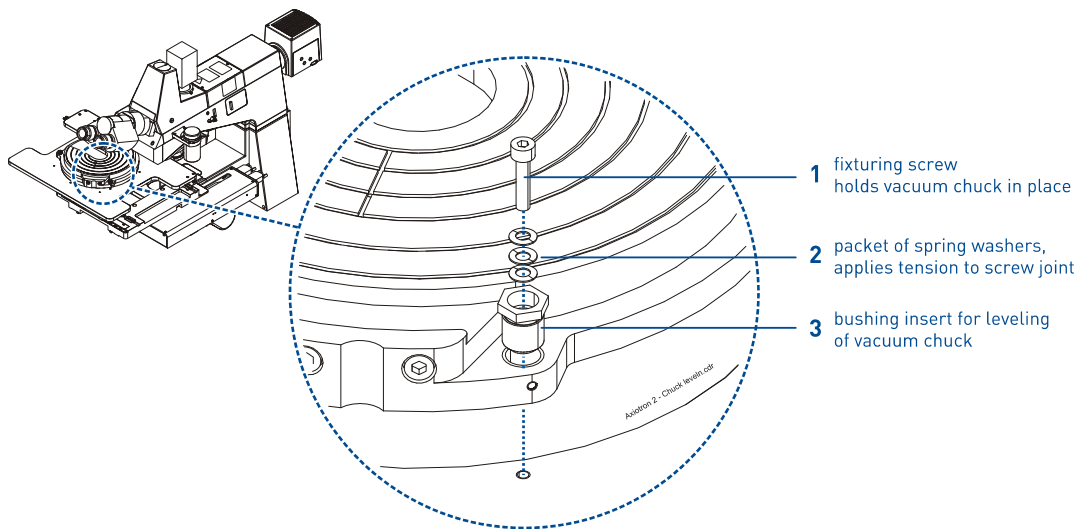

figure 38 Mechanical design of chuck suspension
The vacuum chuck is mounted onto the microscope stage by means of three screws, that are located at the circumference at 120 degrees. Each of the screws protrudes through the chuck and is screwed into the top plate of the microscope stage (1 in figure 38). A packet of bowl-shaped washers (2 in figure 38) acts as a compression spring and applies a counter force if the screw 1 is tightened.
Levelling becomes possible by the design detail, that the set screws 1 do not simple protrude through the chuck, but are held in a bushing (3 in figure 38), which is inserted into the chuck using a fine screw thread. A hexagon head of these bushings allows to rotate them in their fine thread. The bottom of the three bushings forms a three-point suspension for the chuck. The washers make it possible to level the chuck against their counter force, as otherwise (screw 1 is tight) no adjustment at all would be possible.
- Allen key 3 mm to adjust the set screw (1 in figure 38) so that the spring package is properly engaged
- Spanner 13 mm to actuate the bushing insert (3 in figure 38) to level the chuck
- Slacken the set screws (4 in figure 38) of the two variable chuck suspension points on the front of it. Using the 3 mm Allen key, test the tension of their compression springs. The set screws (1 in figure 38) should be set so tight as to compress the washers a bit, but not fully, i.e. they are not supposed to be tight in the strict meaning of the word.
- By joystick, go to the first variable adjustment point. While keeping the focal position where it is, adjust the bushing (3 in figure 38) until the wafer is in focus.
- If the amount of adjustment is too big, the appropriate range of the tension of the compression springs will be left. In this case readjust the tension using the 3 mm Allen key and screw 1 in figure 38.